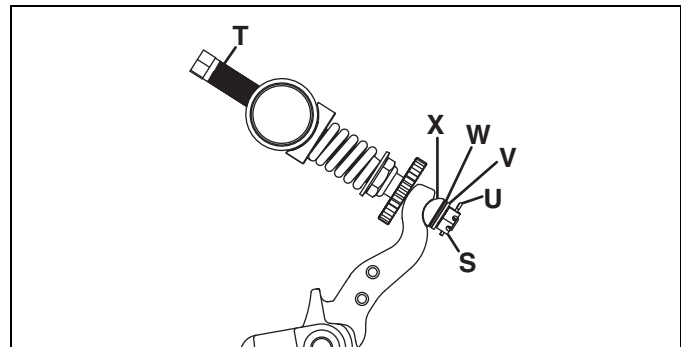

Figure 4G
1. Remove cotter pin (**U**), slotted nut (**S**), bellville washer (**V**), shim washer (**W-If required**), and half trunnion (**X**). See Figure 4G